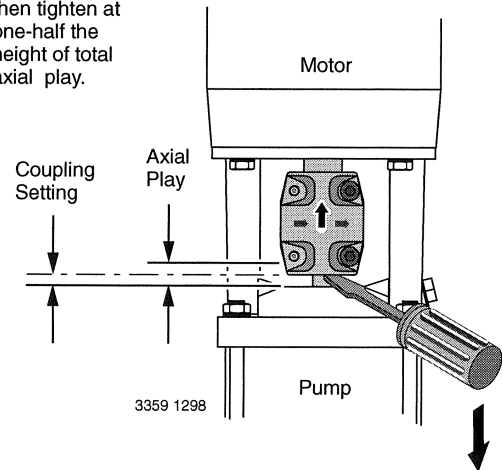

FIGURE 2 - Vertically (axial) Centering the Coupling
16. Insert a screw driver under the coupling (See Figure 2).